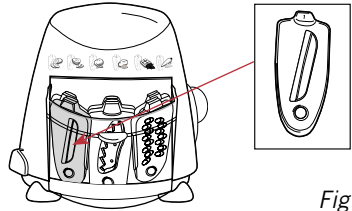
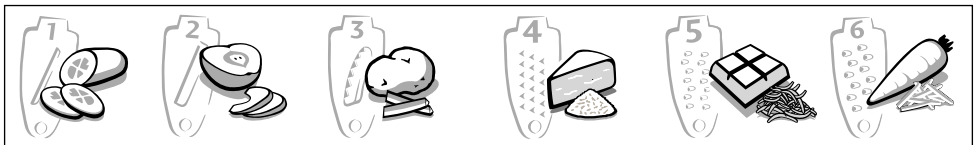

Fig 26
Fig 25
3. Each of the blades is numbered 1 through 6 and corresponds with the numbered illustrations on the unit, see Figure 25. Blade 1 is the 'Thin Slicing' blade and its position in the blade storage compartment is the far left front position, see Figure 26.